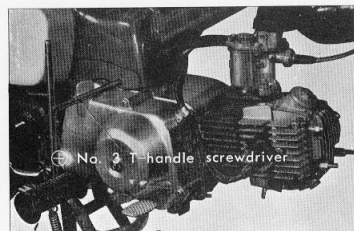
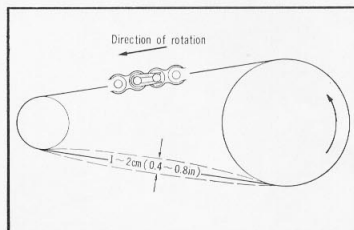

Figure 3-6. Temporary installation
Figure 3-7. Installing direction of joint link
- (1) Perform the engine installation by reversing the engine removal procedure in section 3.14a.
- (2) The engine installation can be facilitated by using the ⊕ T-handle screwdriver to temporarily set the engine and then installing the engine support bolts. (Fig. 3-6)
- (3) The brake pedal spring and the stop spring switch is mounted together with the engine rear under bolt.
- (4) When connecting the drive chain, make sure that the joint clip is installed with the opening opposite to the direction of the chain movement. (Fig. 3-7)